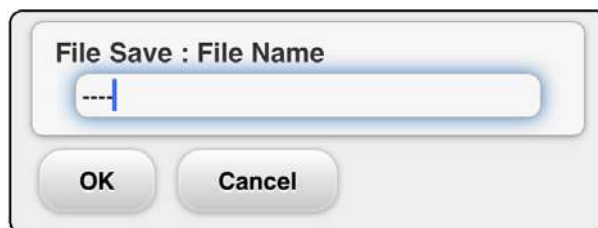

Fig. 4-150 Measurement Condition Saving Window
- (1) When saving the set conditions, press  [save button] icon shown at the header part.
- (2) The file input window (Fig. 4-150) will then be shown. After a saving file name is input, press [OK button].